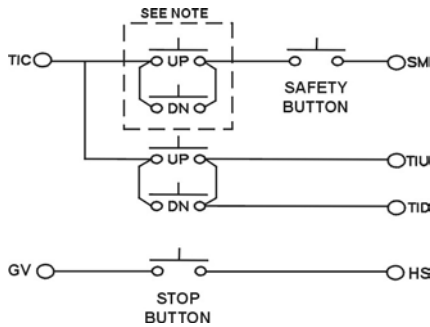

Figure 4-10
3. Wire temporary run box as per Figure 4-10.